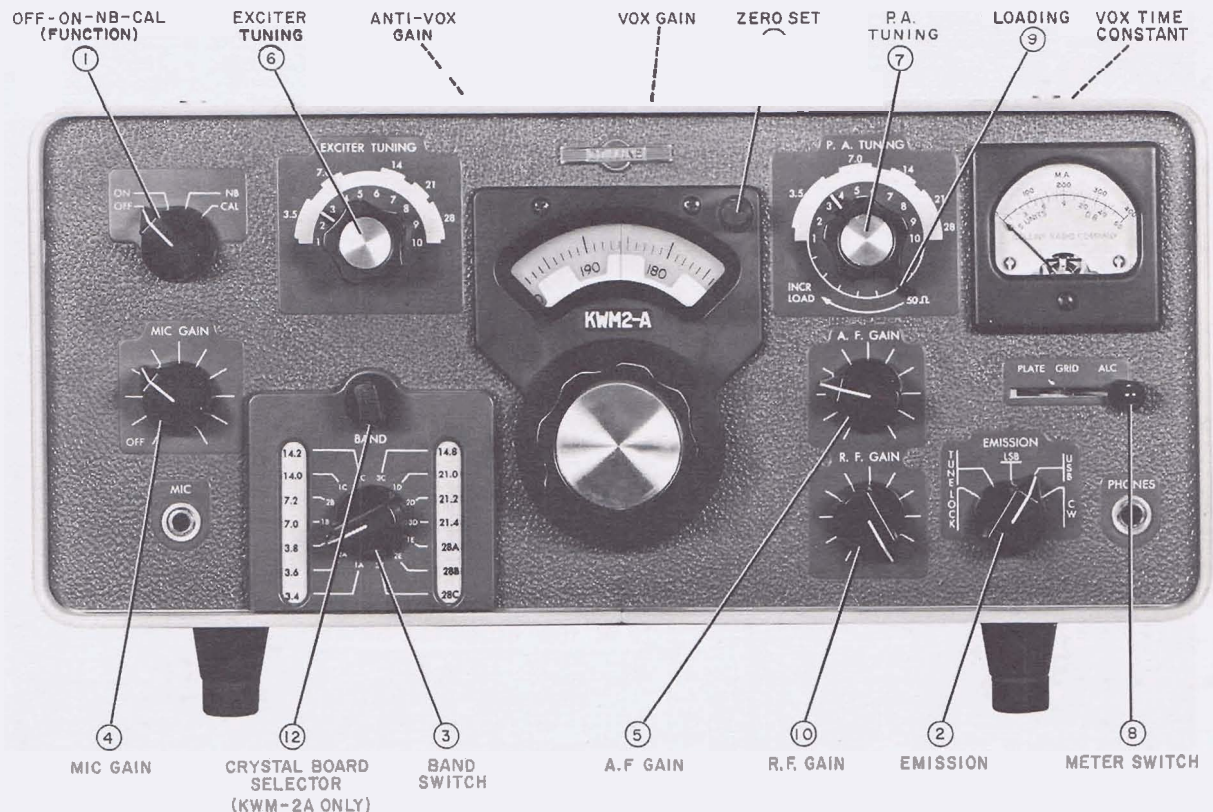

Figure 2-1. Operating Controls
1.3 INITIAL CHECKS. (Refer to figure 2-1.)
- a. Refer to figure 2-1. Set function switch (1) to ON. This is the switch labeled OFF-ON-NB-CAL.
- b. Set EMISSION switch (2) to desired sideband (USB or LSB position). Set BAND switch (3) to desired band. If KWM-2A, set crystal board selector (12) so desired set of bands appears in window.
- c. Set the MIC GAIN control (4) full counterclockwise. Set R.F. GAIN control (10) full clockwise.
- f. Adjust the A.F. GAIN control (5) until some receiver noise is heard in speaker.
- g. Adjust the EXCITER TUNING control (6) to white portion of scale indicating the desired band. Rock this control slightly to peak the receiver noise output. The transceiver is now ready to receive and the selected 200-kc band may be tuned with the tuning control. Dial frequency can be determined by adding the dial reading to the BAND switch (3) setting.
- h. Turn function switch to CAL position. Tune dial to nearest 100-kc point (0, 100, or 200), and decrease R.F. GAIN control (10) as necessary for comfortable listening level. Adjust tuning until the calibrate signal is zero beat. When the calibrate signal is zero beat in the receiver, set the hairline on the 100-kc mark with the zero set knob. Set function switch (1) to ON and tune dial to the desired portion of the 200-kc band selected. If checking calibrate circuit against WWV is desired, see section IV, paragraph 4.5.2.3.